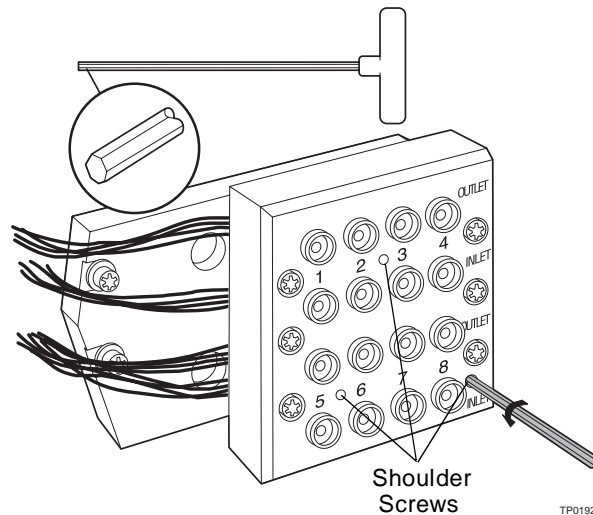

Figure 4-7 Detaching the Manifold from the Optical Assembly
4. If the compression screw is not accessible, unscrew the three shoulder screws using the M3 Allen wrench (Figure 4-7).
4. If the compression screw is not accessible, unscrew the three shoulder screws using the M3 Allen wrench. The screw heads are concealed behind the manifold cover in the manifold block (Figure 4-7).